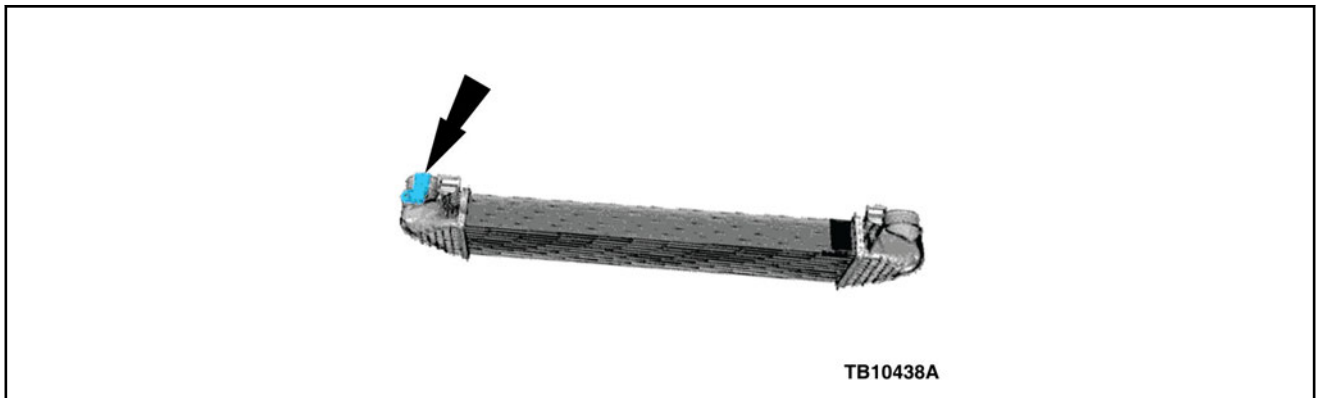

Figure 2 - Article 14-0034
- (3) 2.0L GTDI engine TCBP/CACT (MAPT) sensor location. (Figure 2)